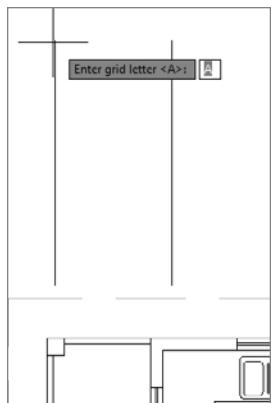

FIGURE 9.8 The command prompt shows the values for the Prompt and Default options specified.
6. Click the leftmost vertical gridline in the drawing. Now look at the bottom line in the command window or the command prompt at the cursor, as shown in Figure 9.8.